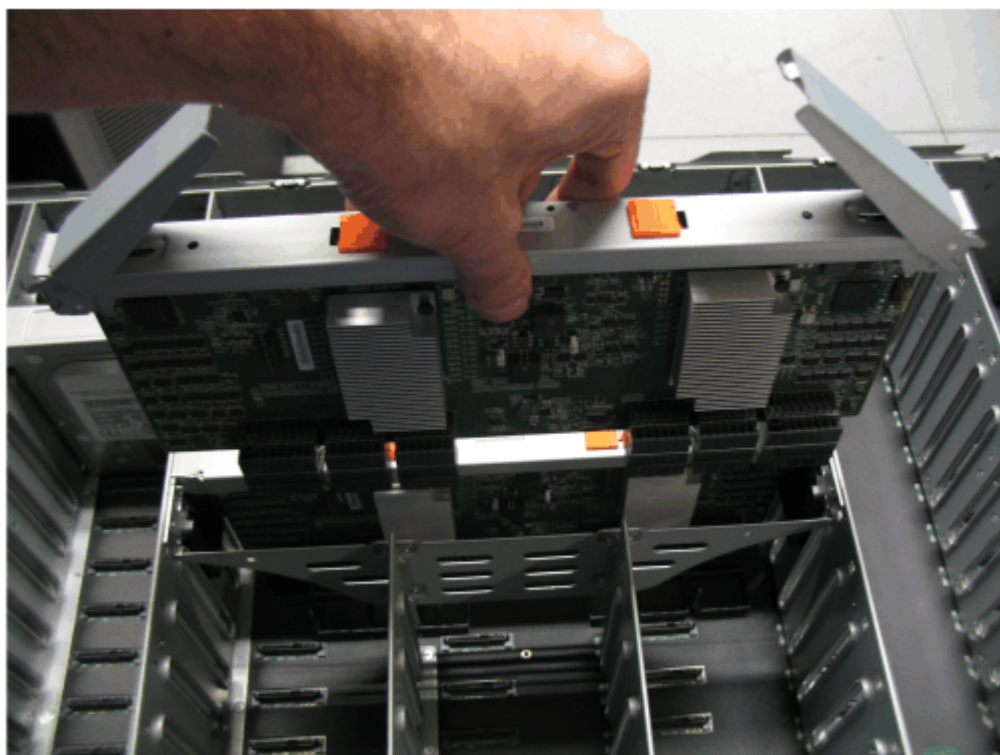

Figure 115. Remove the secondary expander module
4. Lift the secondary expander module carefully out of the enclosure, as shown in Figure 115 on page 98.